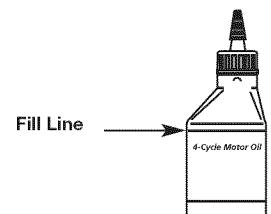

Fig. 22
**NOTE:** Use the bottle and spout saved from initial use to measure the correct amount of oil. The top of the label on the bottle measures approximately 3.04 fl.oz. (90 ml) (Fig. 22). Check the level. See *Checking the Oil Level*. If the level is low, add a small amount of oil and recheck. Do not overfill (Fig. 18).